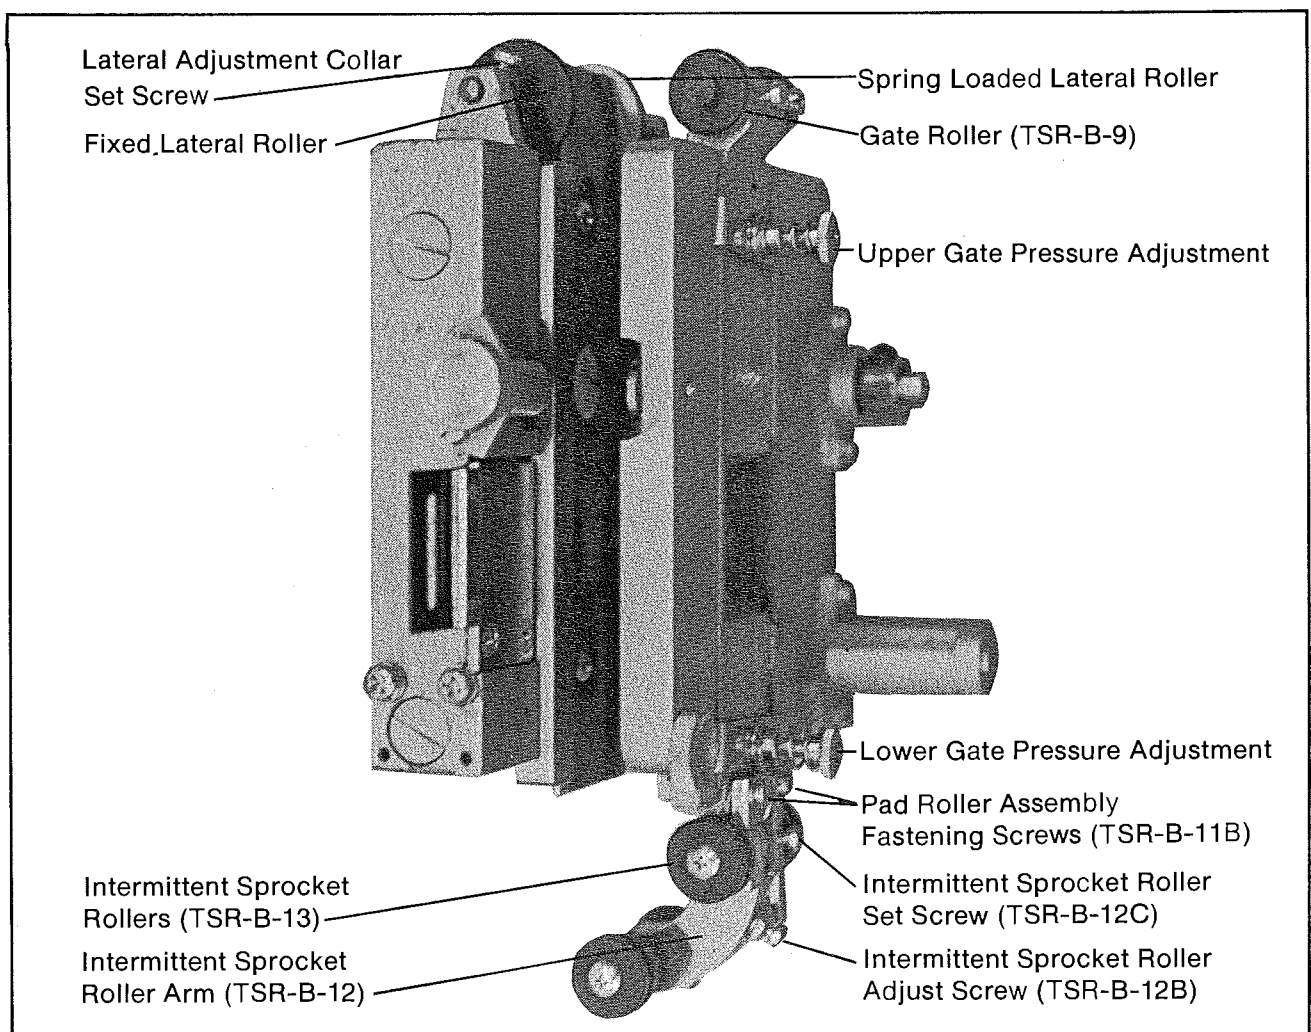

Fig. 6-5:
- 6.9.2 To adjust the Intermittent Sprocket Pad Roller Assembly, first thread two film thicknesses through the Gate (TSR-BA), over the Intermittent Sprocket and over the Take-Up Sprocket (TSR-G-14B), being careful to maintain the correct size film loop between these two sprockets. Push the Gate Assembly closed to secure the film over the Intermittent Sprocket. Carefully loosen, but do not remove, the two Pad Roller Assembly Fastening Screws (TSR-B-11B $\times$ 2), grasp the Pad Roller Upper Mounting Bracket (TSR-B-11) and position same so that both the upper and lower pairs of Intermittent Sprocket Pad Rollers (TSR-B-13 $\times$ 4) are in the correct azimuth and lateral position in relation to the Intermittent Sprocket. This is determined by viewing the Pad Assembly head-on, from the front of the projector, to see that each of the four Rollers' middle slot is properly centered over its corresponding row of sprocket teeth. When the correct setting is achieved, securely tighten the two Pad Roller Assembly Fastening Screws (Fig. 6-5).
- 6.9.3 There are two roller assemblies which hold the film in a proper wrap around the Intermittent Sprocket. The Upper Roller Assembly should be adjusted for two thicknesses of film by loosening the Set Screw (B-12C) and rotating the eccentric shaft to a proper position. The Lower Roller Assembly is mounted on a spring loaded Radius Arm (B-12). This roller assembly should just touch the sprocket with no film in the gate. This roller assembly may be adjusted in two ways. The roller assembly is on an eccentric shaft and may be adjusted in the same manner as other similar assemblies on the projector. Additional adjustment is provided by a Screw and Lock Nut (B-12B) located in the center of the radius arm and just above the lower roller shaft set screw (see Fig. 6-5).
- 6.10.1 The Tokiwa TSR projector's Film Gate/Trap Assembly (TSR-B) (Fig. 6-5) utilizes a unique combination of precision lateral guide rollers, gate pad rollers and elongated film guide and gate pressure shoes to provide maximum film control for outstanding picture stability. Correct adjustment of the Film Trap Lateral Guide Rollers (TSR-B-5 $\times$ 2) provides proper guidance and stabilization of the film as it travels through the Gate/Trap Assembly and past the Main Aperture (TSR-B-2). This subsequently limits the amount of horizontal picture movement ("side weave") to percentages that are well within industry standards and far superior to performance figures obtained with other projector models.
- 6.11.1 The Film Gate Upper Pad Rollers (TSR-B-9 × 2) (Fig. 6-5) are designed to gently stabilize excessive film loop "slap" as the film passes through the Lateral Guide Rollers (TSR-B-5 × 2) and the Film Trap Guide Shoes (TSR-B-3A, 3B). The Rollers' damping action helps to eliminate picture "jitter" (vertical instability), "side weave" (horizontal instability) and excessive operating noise.